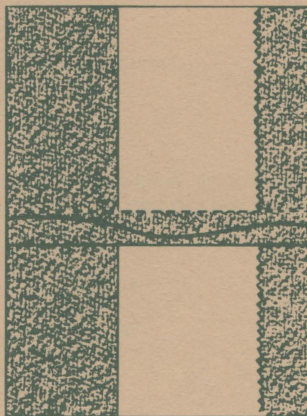

Figure 27. Trim fusible interfacing along seamline; position under garment seam allowance
- Trim the interfacing away at the garment seams; fuse under the seam allowances (Figure 27).